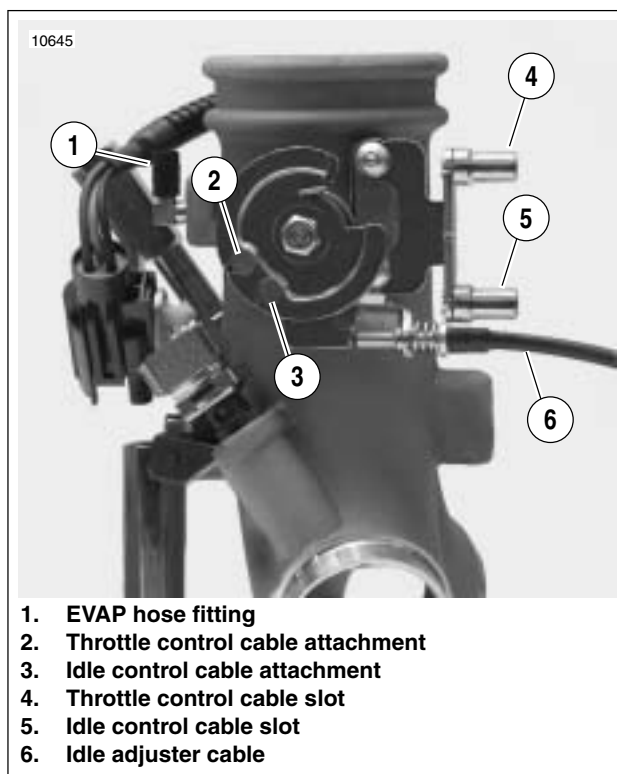

Figure 4-111. Throttle Cable Bracket (typical)
3. See Figure 4-111. On California models, pull EVAP hose from fitting (1).